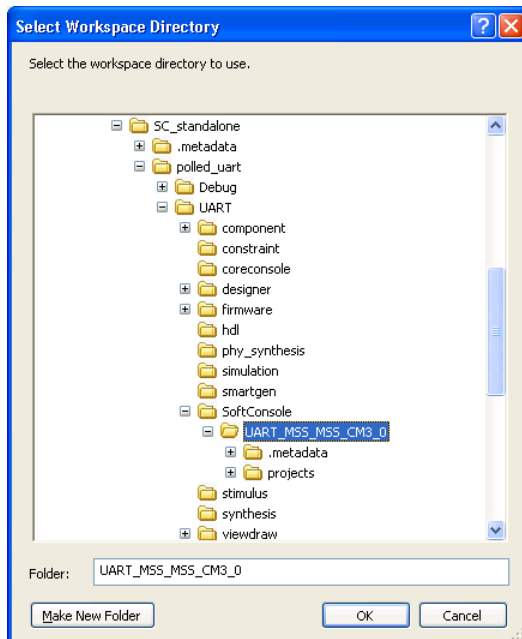

Figure 13 · Specifying the Workspace
1. Invoke the SoftConsole project generated by Libero SoC v10.0 using **File > Switch Workspace > Other...** and browse to the SoftConsole workspace as shown in Figure 13 . .